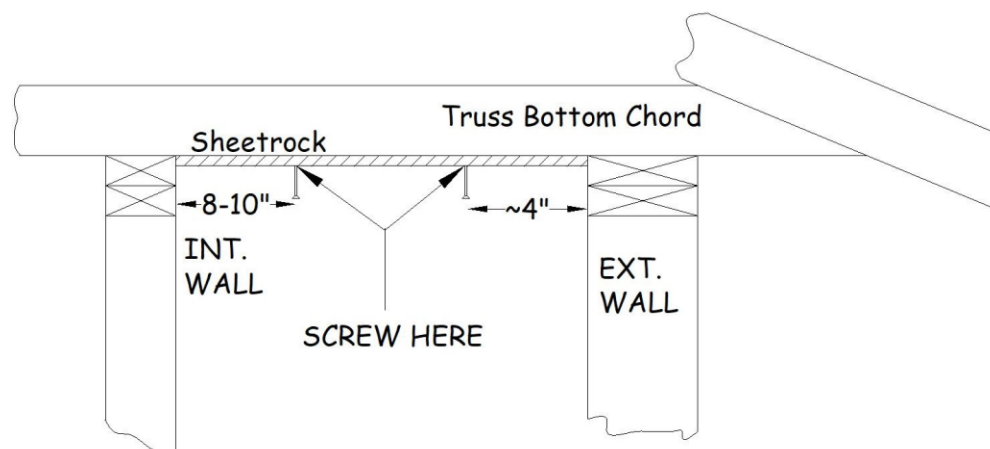

Figure 13-1. Screw Locations for Ceiling Sheetrock.
7. When fastening sheetrock to trusses that cross interior or exterior walls, hold the screws 8"-10" away from interior walls, and about 4" away from exterior walls (see Figure 13-1).
5. Also evaluate hallway areas extending from the kitchen/dining/living room areas. (In Figure 13-1, note that by extending the 2'-11" piece around the corner and into the hallway, a narrow filler piece could be avoided.)